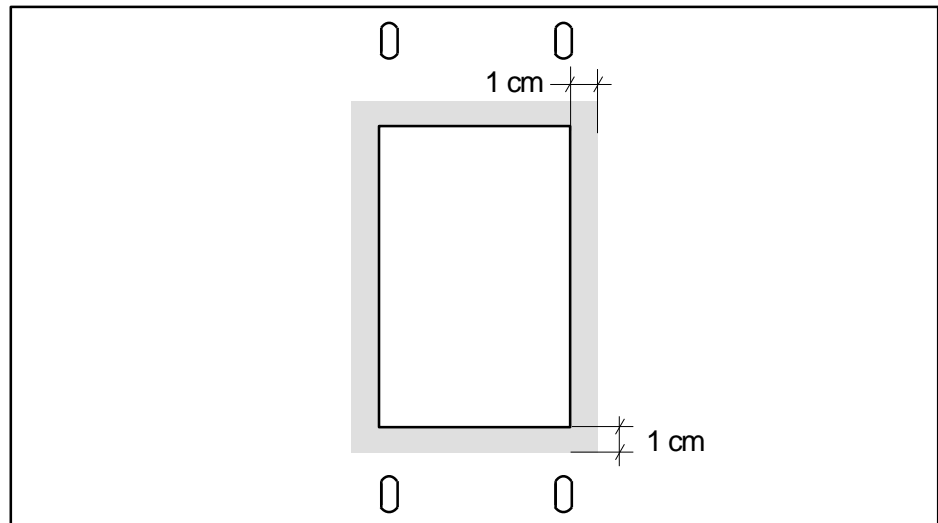

Figure 10 Mounting shielding gasket around cable holes
- Cut out the shielding gaskets from the piece of shielding material included in the extension kit. The shielding gasket should cover approximately 1 cm around the cable hole as shown in figure 10.
2. Use four screws for each opened cable hole to fasten the cabinets together. The holes for the screws are positioned in each corner of the cable hole, see figure 10.